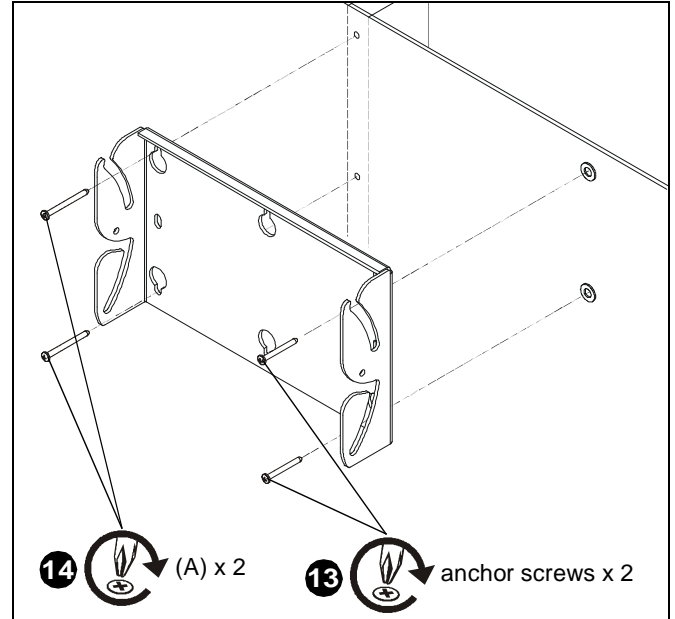

Figure 6
12. Remove and retain anchor screws from anchors (N).
13. Insert anchor screws through wall bracket (P) and install into collapsed anchors (N). (See Figure 6)
14. Install two #10 x 2 1/2" Phillips tapping screws (A) through wall bracket (P) and into wood stud. (See Figure 6)